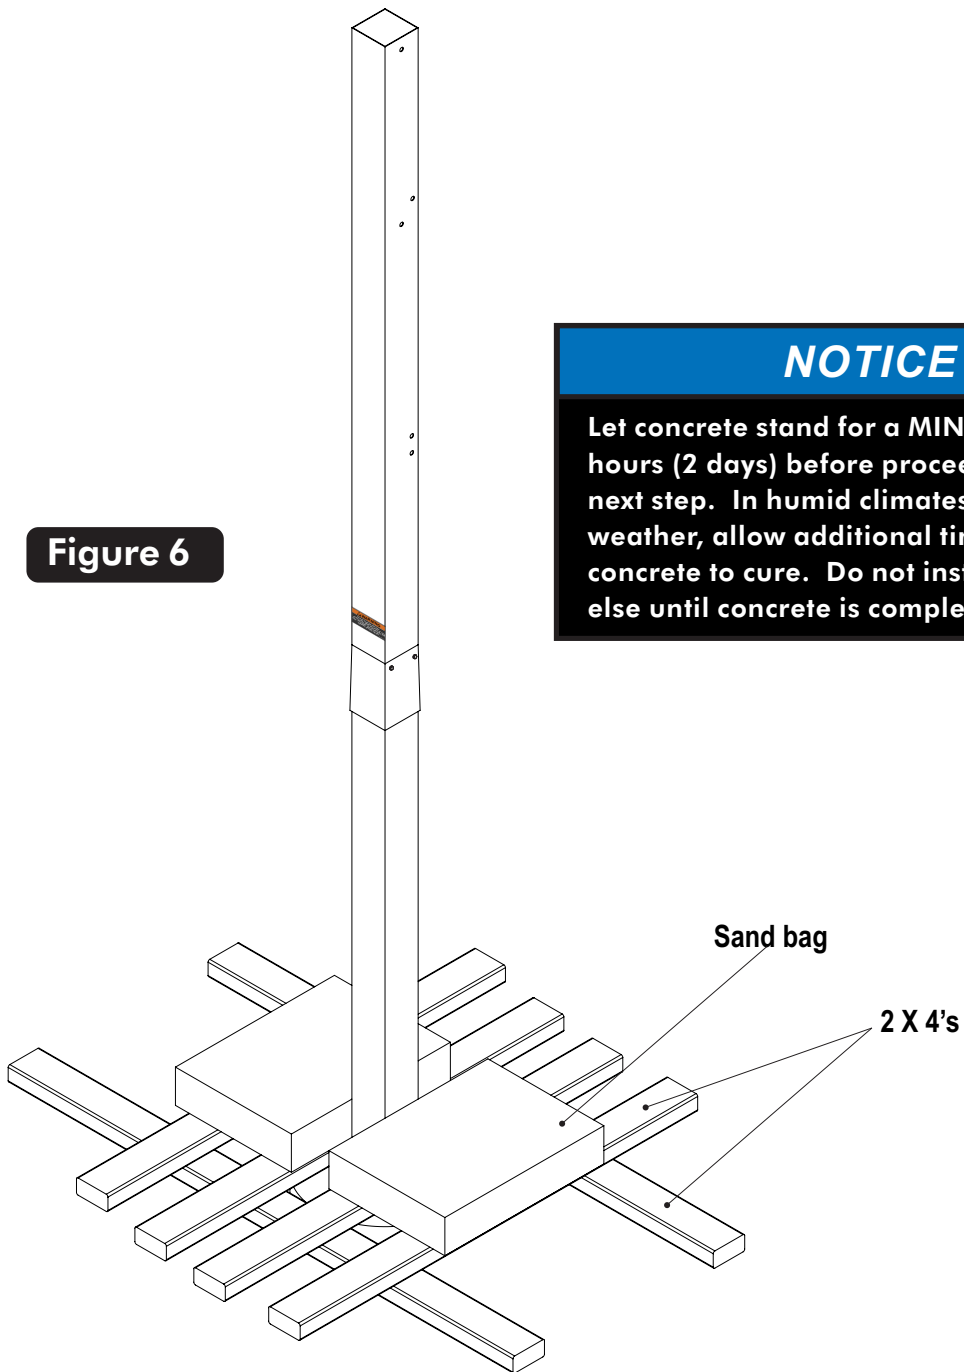

Figure 6
7. Stabilize the pole by using six 2X4's and placing two 50 lbs. bags of sand on top to keep pole from shifting, periodically check the pole with level to ensure that pole is vertical. See **Figure 6**.